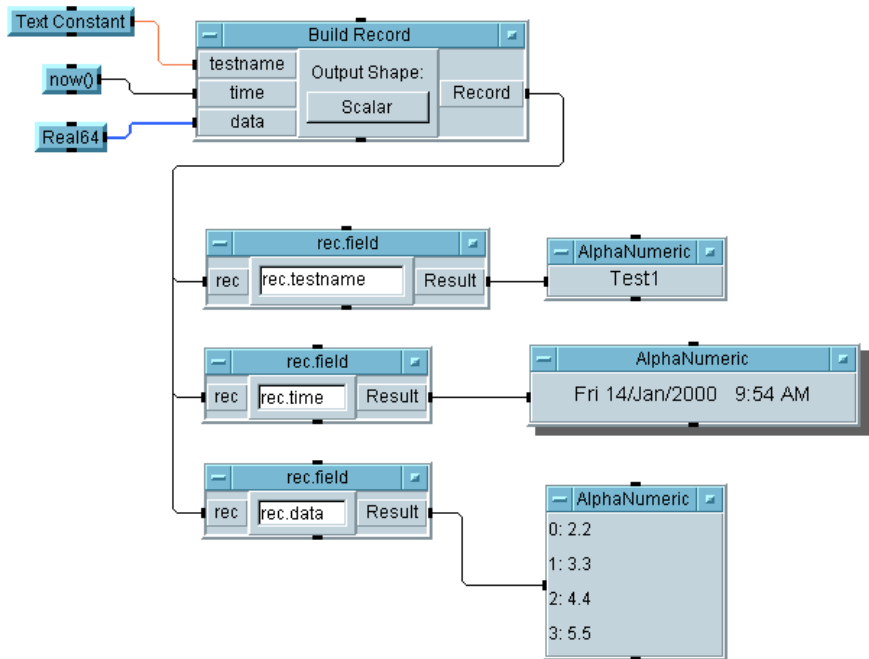

Figure 5-11. Using the Get Field Object
9. Run the program and save it as `getField.vee`. The program should look like Figure 5-11.